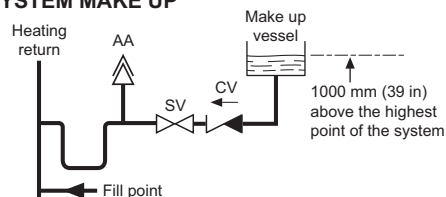

Fig. 4 System fill/System make-up
- The CH sealed system must be filled using a WRAS approved filling loop or comply with figure 4 for system fill.